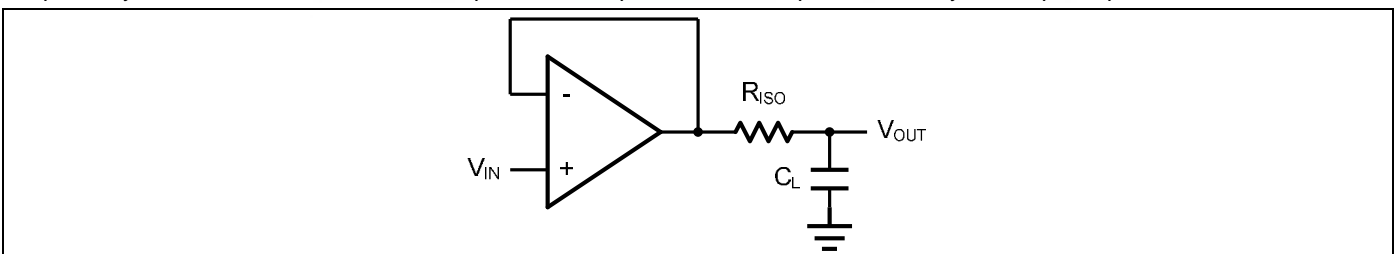
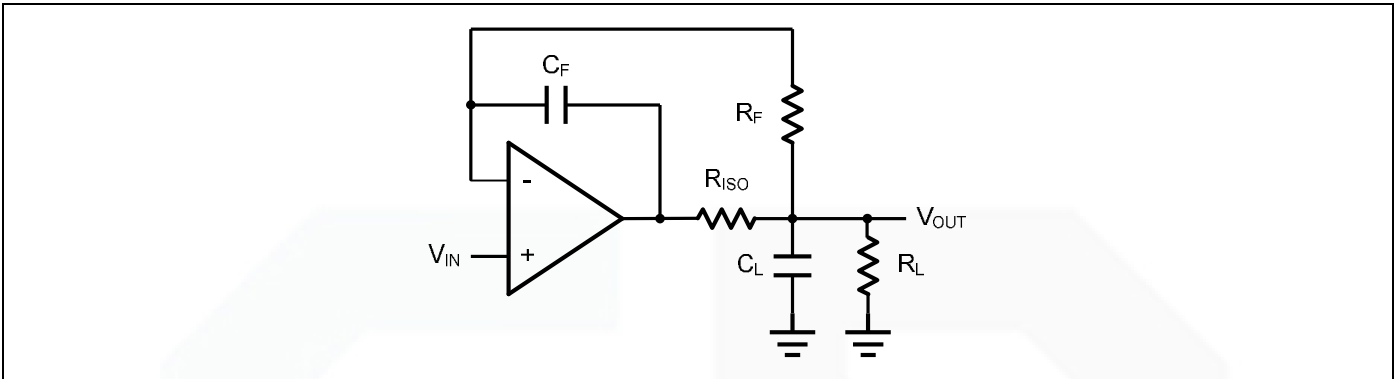

Figure 2. Indirectly Driving a Capacitive Load Using Isolation Resistor
Figure 3. Indirectly Driving a Capacitive Load with DC Accuracy
The GS321/358/324 family is optimized for bandwidth and speed, not for driving capacitive loads. Output capacitance will create a pole in the amplifier's feedback path, leading to excessive peaking and potential oscillation. If dealing with load capacitance is a requirement of the application, the two strategies to consider are (1) using a small resistor in series with the amplifier's output and the load capacitance and (2) reducing the bandwidth of the amplifier's feedback loop by increasing the overall noise gain. Figure 2. shows a unity gain follower using the series resistor strategy. The resistor isolates the output from the capacitance and, more importantly, creates a zero in the feedback path that compensates for the pole created by the output capacitance.
The circuit in Figure 3 is an improvement to the one in Figure 2. R_F provides the DC accuracy by feed-forward the V_{IN} to R_L . C_F and R_{ISO} serve to counteract the loss of phase margin by feeding the high frequency component of the output signal back to the amplifier's inverting input, thereby preserving the phase margin in the overall feedback loop. Capacitive drive can be increased by increasing the value of C_F . This in turn will slow down the pulse response.